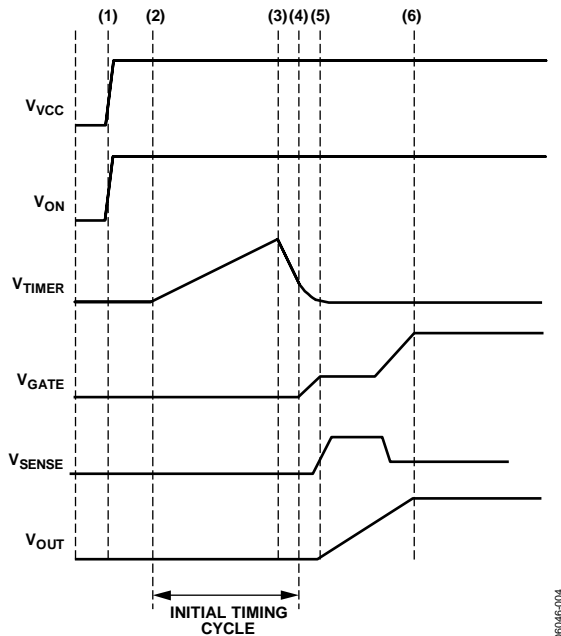

Figure 30. Startup (ON Asserts as Power Is Applied)
When VCC is first connected to the backplane supply, the internal supply (Time Point (1) in Figure 30) of the ADM1176 must be charged up. A very short time later (significantly less than 1 ms), the internal supply is fully up and, because the undervoltage lockout voltage has been exceeded at VCC, the device comes out of reset. During this first short reset period, the GATE pin is held down with a 25 mA pull-down current, and the TIMER pin is pulled down with a 100 μA current sink.
When the initial timing cycle terminates, the device is ready to start a hot swap operation (assuming ON pin is asserted). In the example shown in Figure 30, the ON pin is asserted at the same time that V_{CC} is applied, so the hot swap operation starts immediately after Time Point (4). At this point, the FET gate is charged up with a 12 μA current source.